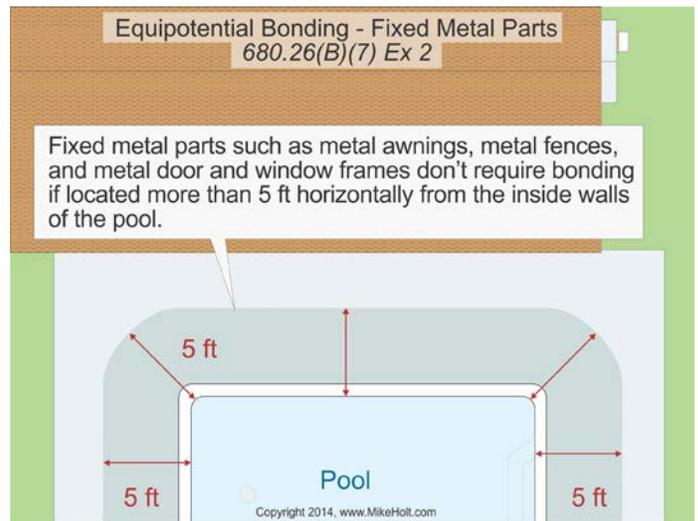

Figure 680-47
*Ex 2: If located more than 5 ft horizontally from the inside walls of the pool structure. **Figure 680-47***